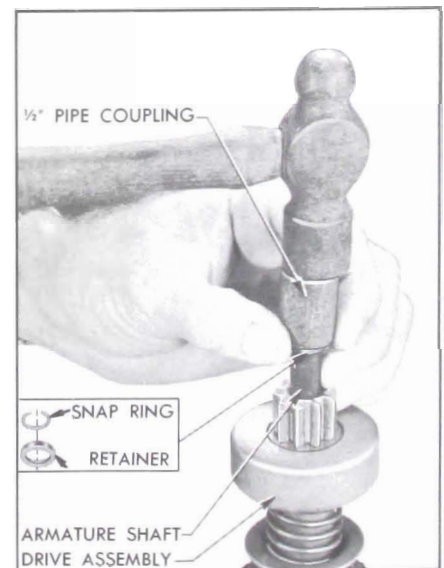

Figure 10-32—Removing Pinion Stop Retainer and Snap Ring
5. To remove drive assembly from armature, place a metal cylinder of proper size (1/2" pipe coupling will do) over end of shaft to bear against the pinion stop retainer. Tap retainer toward armature to uncover snap ring. See Figure 10-32. Remove snap ring from groove in shaft, then slide retainer and pinion drive assembly from shaft. Remove assist spring.